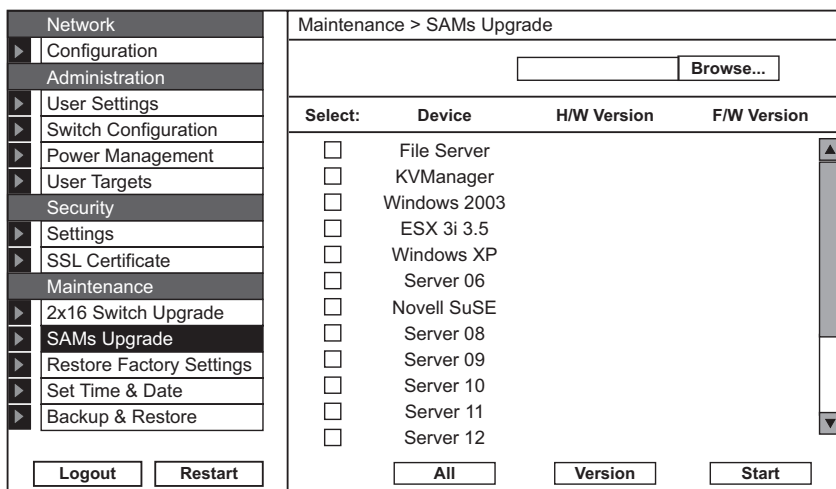

Figure 12-1. SAMs Upgrade.
1. From the menu select SAMs Upgrade. The SAMs Upgrade window appears showing the current firmware version see Figure 12-1.